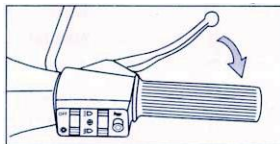

Fig. 27
5.2 **Hand Brake:** Operates on the front wheel. Press hand brake lever towards the twist grip (Fig. 27).